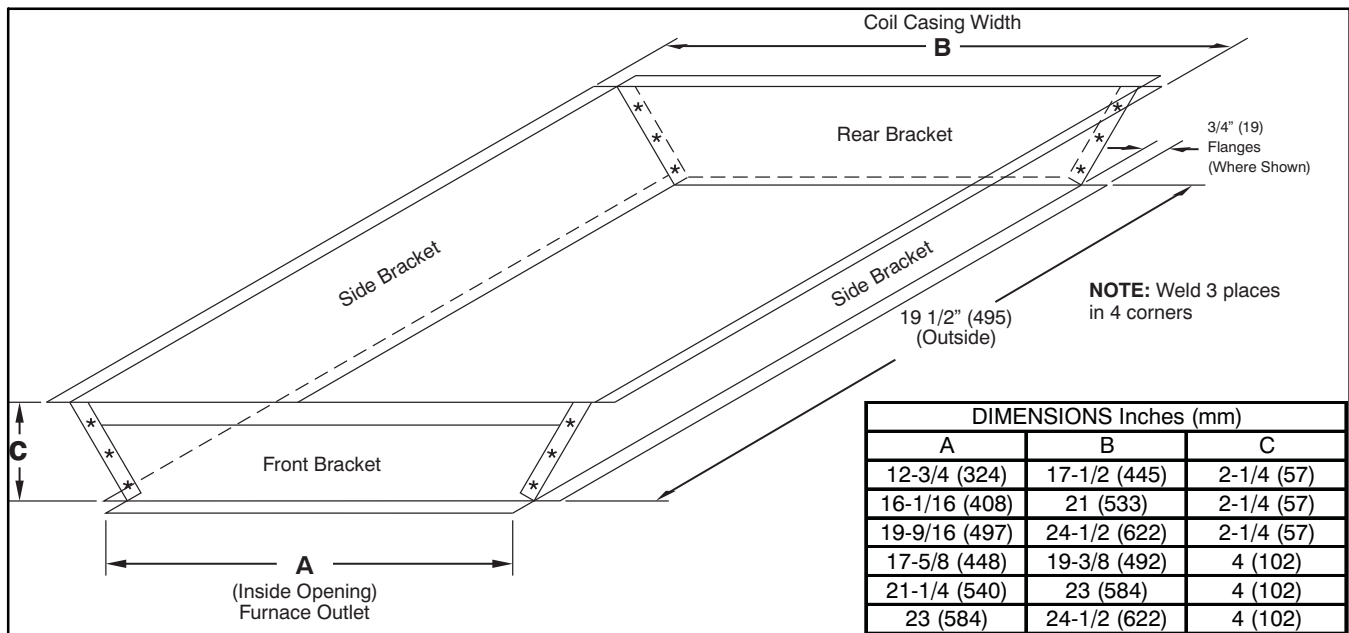

Figure 5 - Recommended Transition
STANDARD MODEL COILS APPLIED CENTERED OVER NARROW FURNACE REQUIRE A MINIMUM TRANSITION AS SPECIFIED IN **Figure 5**.
1. Prepare transition, following recommended transition drawing. See **Figure 5**.
NOTE: If coil is not being installed in the standard orientation (front of coil matching front of furnace) then coil must be raised above furnace as specified in **Figure 5**.
3. Coils that under-hang (narrower than furnace) must have a field-fabricated transition between furnace and N-coil casing as specified in **Figure 5**.